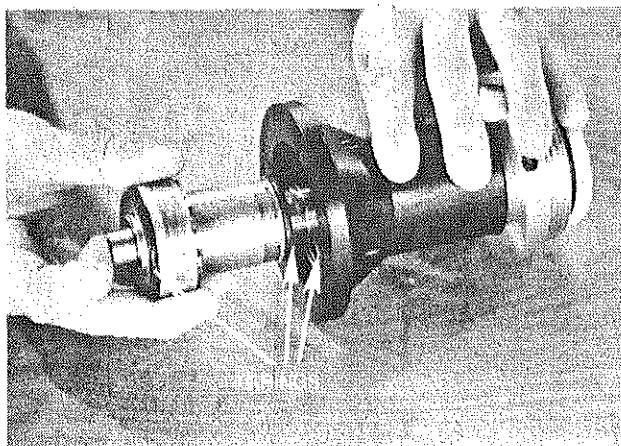

FIG. 28
10. Install lubricated O-ring into groove inside turbine housing. Lubricate bearing lands, and install lubricated O-rings over front edge of rear bearing and over rear of rear thrust bearing (Fig. 28).
11. *Carefully* slide shaft/rear bearing/rear thrust bearing assembly into turbine housing (Fig. 28).